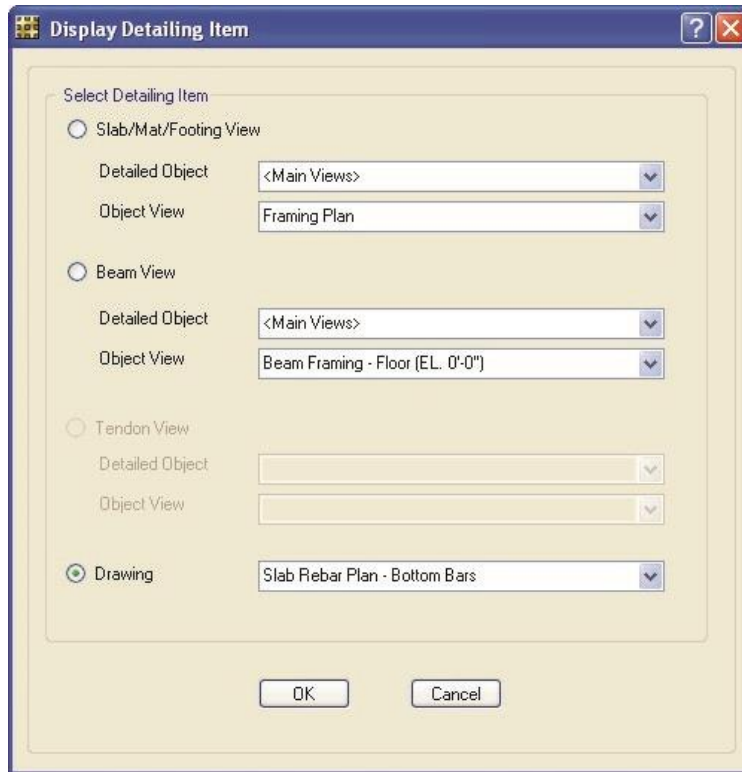

Figure 46 Display Detailing Item form
- L. Click the **Detailing menu > Show Detailing** command to access the Display Detailing Item form shown in Figure 46.